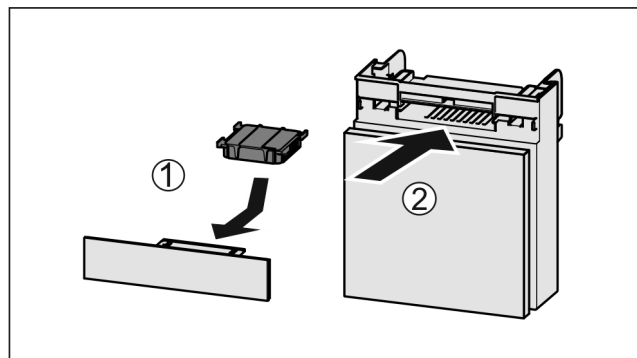

Fig. 219
- Insert the carbon filter as shown in the diagram Fig. 219 (1).
- Push the compartment in Fig. 219 (2).